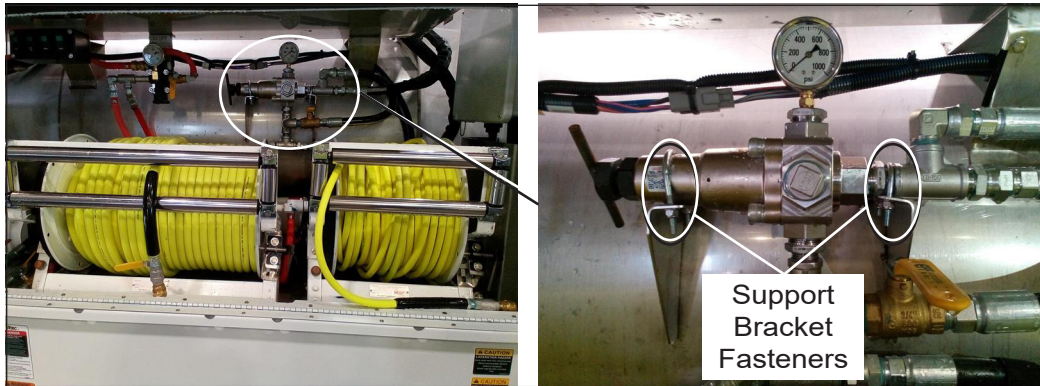

Figure 1 — Pressure Regulator and Support Bracket
2. Locate the pressure regulator and its support bracket (refer to Figure 1) inside the front curb side panel.